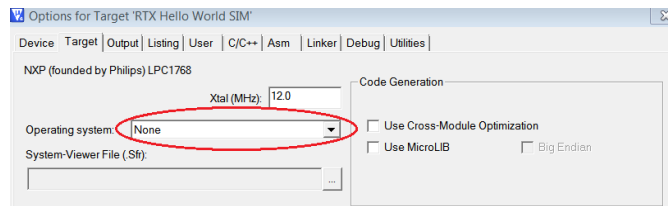

Figure 1.26: Keil IDE: Removing Linkage with Stocked RTX Library
2. Remove the pre-built RTX library by ARM from the target option setting (see Figure 1.26).